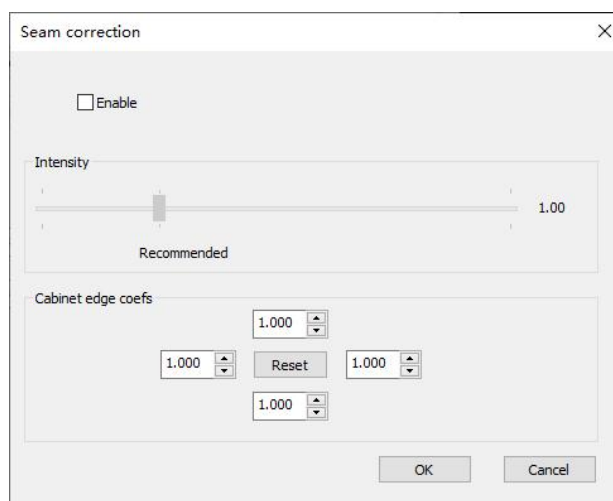

Fig.3-85 Seam Correction
- **Seam correction:** This function is enabled by default. You can disable it according to your need. See Figure 3-85.